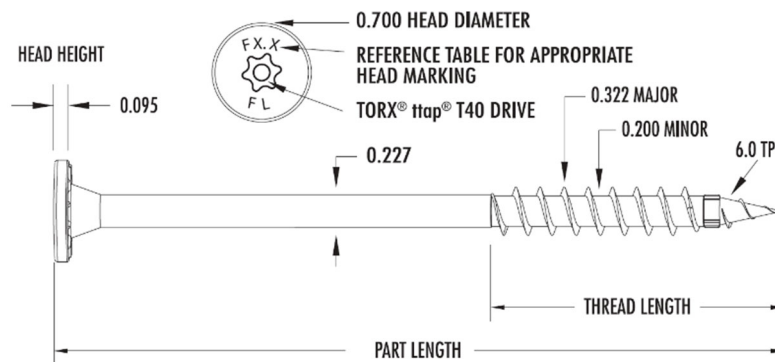

FIGURE 1: FastenMaster® FlatLOK®
3.1 General: The FastenMaster® FlatLOK® Fasteners described in this report are partially rolled-threaded and have a proprietary point as shown in Figure 1 of this report. The fasteners are available in multiple lengths as described in Table 1 of this report.
². Thread length includes tapered tip, as exhibited in Figure 1 of this report.